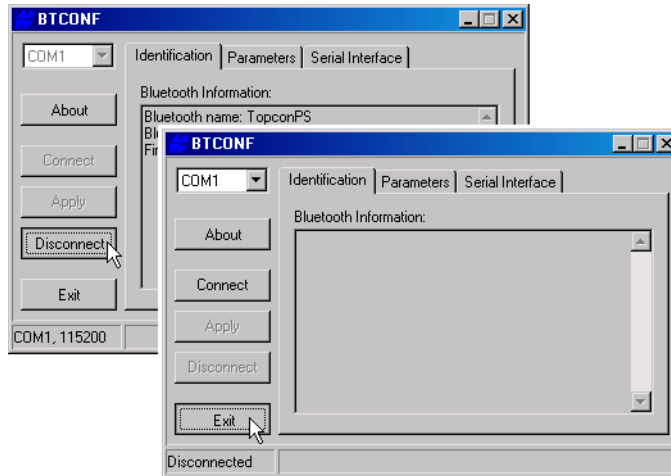

Figure 2-33. Click **Disconnect** then **Exit**
9. Click **Disconnect** then **Exit** (Figure 2-33) to quit BTCONF.